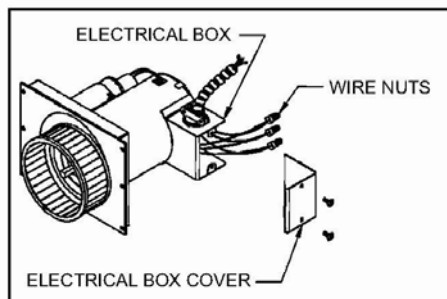

Figure 2
2. Remove the electrical box cover and disconnect the conduit and wires. (See Figure 2) It is not necessary to disconnect the wires from the Control Kit.